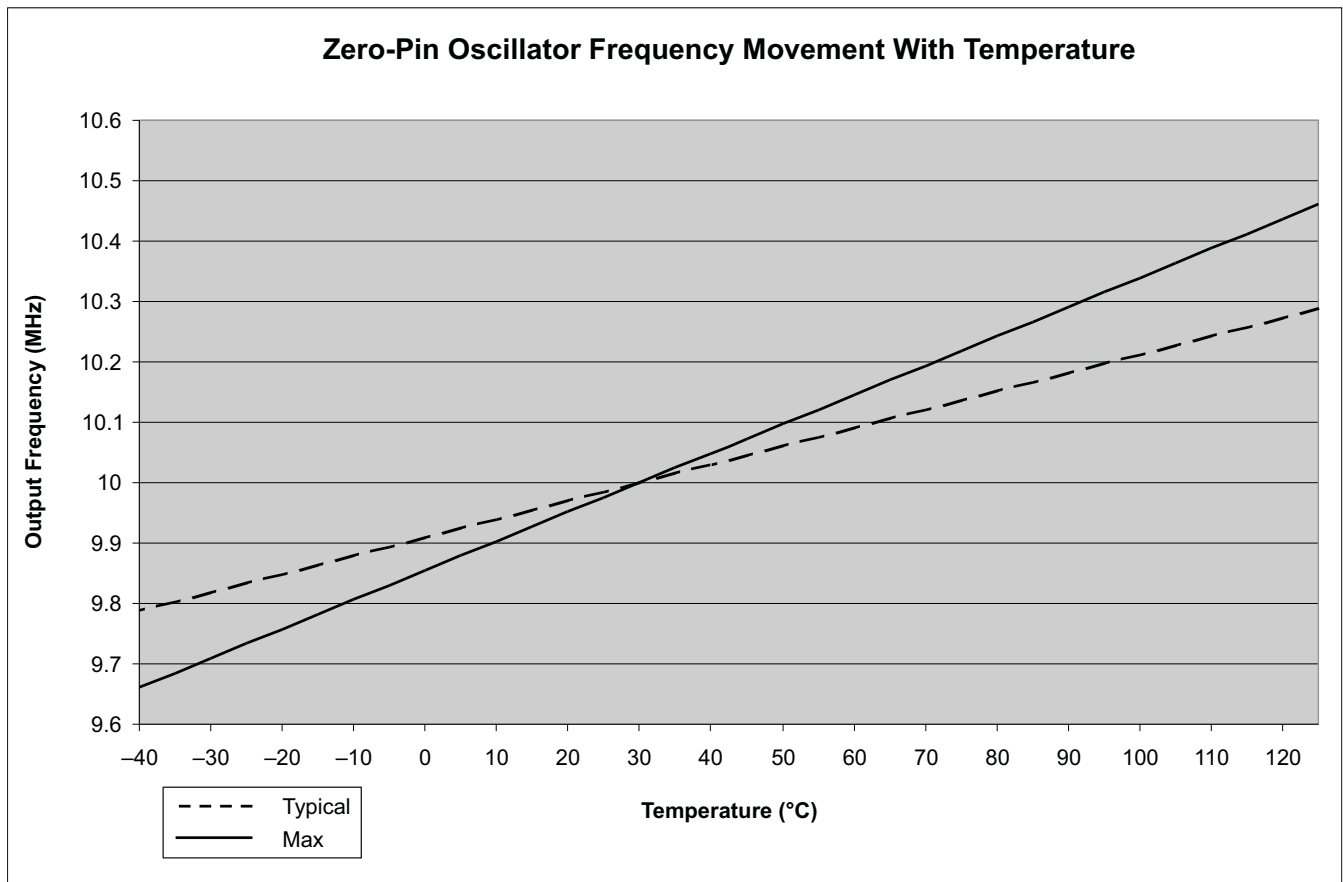

Figure 4-10. Zero-Pin Oscillator Frequency Movement With Temperature
- (1) Oscillator frequency will vary over temperature, see Figure 4-10. To compensate for oscillator temperature drift, see the Oscillator Compensation Guide and the controlSUITE™ example, Example_2803xOscComp.c.
- (2) Frequency range ensured only when VREG is enabled, VREGENZ = V_{SS}.
- (3) Output frequency of the internal oscillators follows the direction of both the temperature gradient and voltage (V_{DD}) gradient. For example: